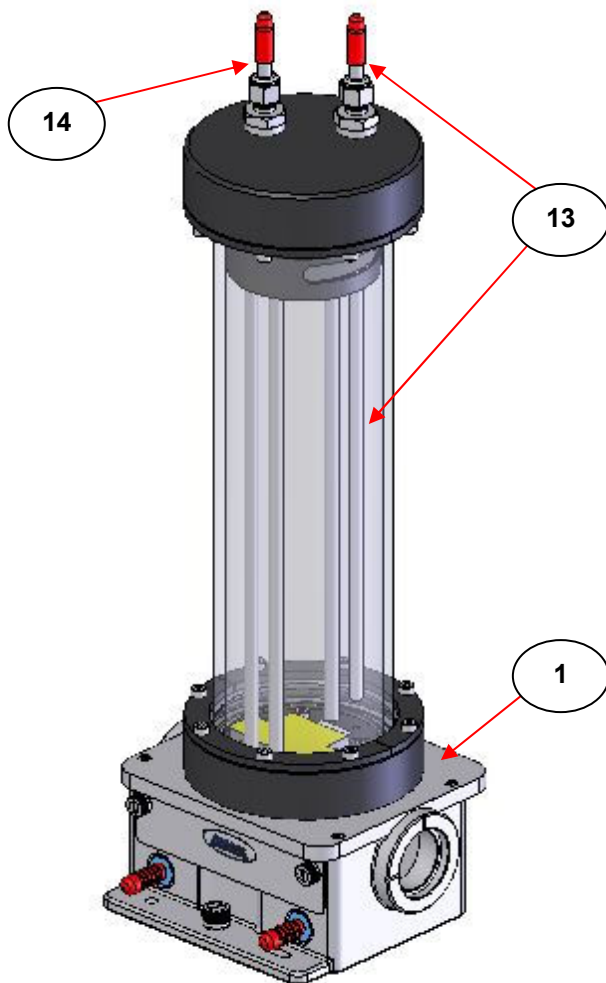
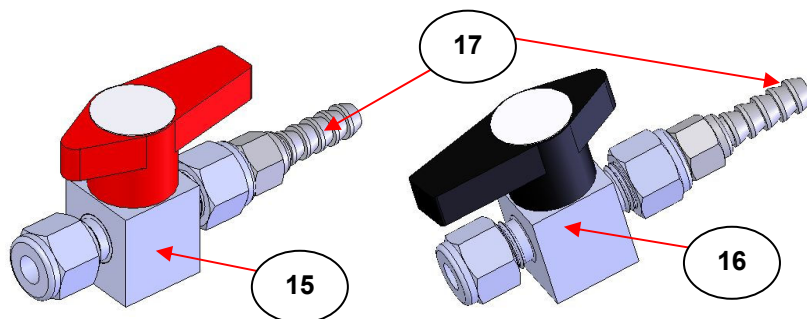

Fig 11. Tornado™ T5 Gas Cell to Show Inlet and Outlet Gas Tubes
Fig 12. Tornado™ Vacuum Gas Cell Inlet (Red Tap) and Outlet (Black Tap) Valves - Specac P/N GS24161
Common to all of the Tornado™ gas cells for either a (**G**) or (**M**) bodied gas cell are inlet (**13**) and outlet (**14**) gas flow tubes in stainless steel material. These gas flow tubes are finished at the top of the gas cell with their own red rubber caps as supplied. (See Fig 11.) The gas flow tubes are open ended 1/4" O.D. tubes for connection to suitable gas flow piping by compression fitting unions etc, connections for plumbing to an (inlet) gas supply and (outlet) gas flow or vacuum pump facility. The tops of the inlet (**13**) and outlet (**14**) gas flow tubes can also be adapted by connection to the Tornado™ vacuum gas cell inlet (**15**) and outlet (**16**) tap valves, Specac P/N GS24161 – (See Fig 12.)
The inlet tube (**13**) is distinguished from the outlet tube (**14**) for gas flow, such that the inlet tube (**13**) passes all of the way down the inside the gas cell body to exit at the base of the gas cell. (See Fig 11). The
Fig 12. shows the Tornado™ vacuum gas cell inlet (15) and outlet (16) tap valves. The colour of the taps and their arrow direction when the taps are open indicates the direction of gas flow. If these taps are fitted to the inlet (13) and outlet (14) gas flow tubes, the Tornado™ gas cell can be operated in a **flow through mode** for vapour measurement with both valves (15) and (16) open.
For all of the Tornado™ gas cell variants a low (**L**) or high (**H**) pressure gauge kit P/N GS24160 can be fitted for measurement of the gas pressure within the gas cell environment. The pressure gauge kit of parts (**18**) can be purchased separately for fitting to a Tornado™ gas cell, or these parts may have already been configured and fitted to the gas cell that has been ordered and supplied. (An (**L**) or an (**H**) letter is included in the part number of the Tornado™ gas cell ordered.) Either the (**L**) or (**H**) pressure gauge kit of parts (**18**) is fitted between the top of the outlet gas flow tube (**14**) and the outlet on/off valve tap (**16**), if this part has been obtained via P/N GS24161 (See Fig 12.) .